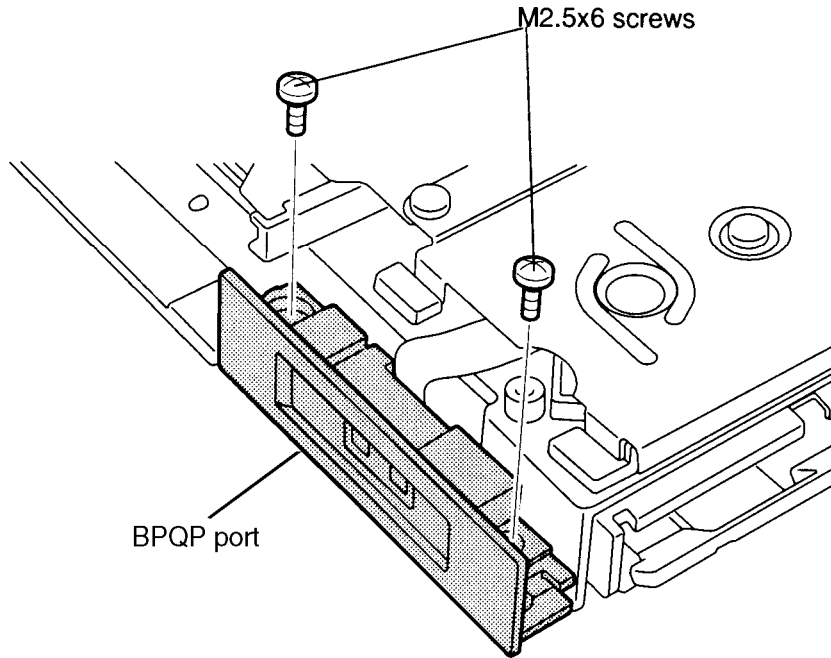
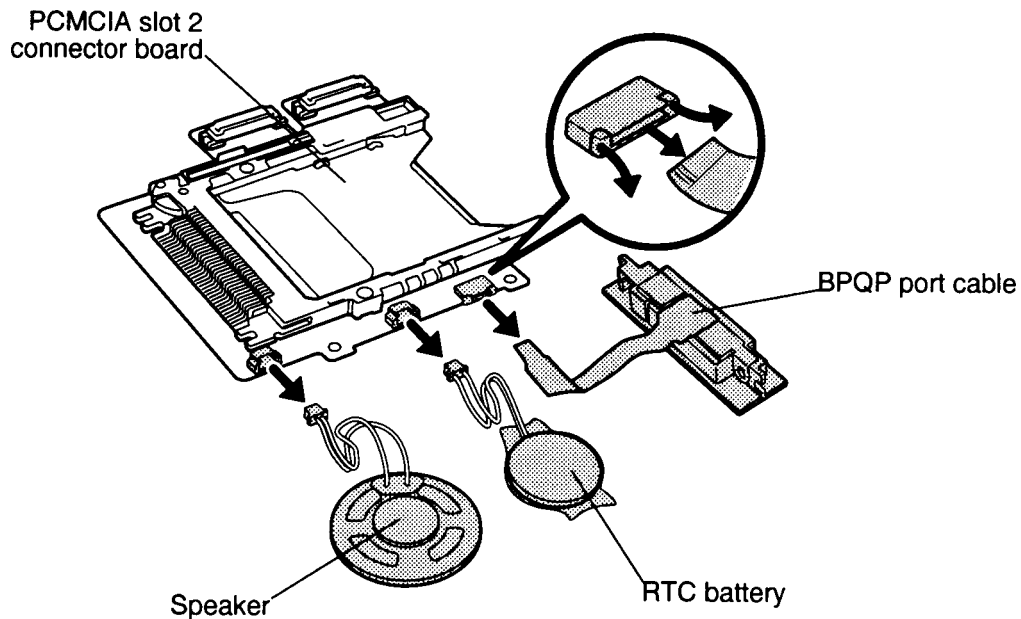

Figure 4-34 Removing the BPQP port screws
Figure 4-38 Disconnecting the speaker, RTC battery, and BPQP port cables
5. Turn the **base assembly** over and remove the **two M2.5x6 screws** securing the **BPQP port** (Figure 4-34). Pull the **BPQP port** away from the base assembly, but do not disconnect the cable.
3. Secure the **BPQP port** to the base assembly with **two M2.5x6 screws** (Figure 4-34).
To remove the T4850CT's speaker, RTC battery and BPQP port, follow the steps below and refer to Figures 4-34 and 4-36 through 4-38.
4. Remove the **two M2.5x6 screws** securing the **BPQP port**, if they were not removed earlier (Figure 4-34).
8. Disconnect the **speaker, RTC battery, and BPQP port cable** from each connector on the **PCMCIA slot 2 connector board** (Figure 4-38).
To install the T4850CT's speaker, RTC battery, and BPQP port, follow the steps below and refer to Figures 4-38 back through 4-36 and Figure 4-34.
1. Connect the **speaker, RTC battery, and BPQP port** cable to the **PCMCIA slot 2 connector board** (Figure 4-38).
5. Secure the BPQP port with **two M2.5x6 screws** (Figure 4-34).